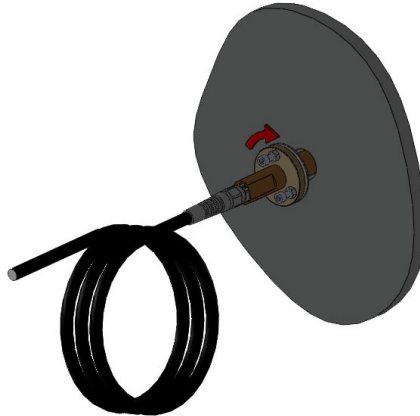

Fig.3.3
**TIP:** DO NOT over-tighten locking bolts, you will fracture the light body and this will not be covered under warranty. (See Fig.3.3).